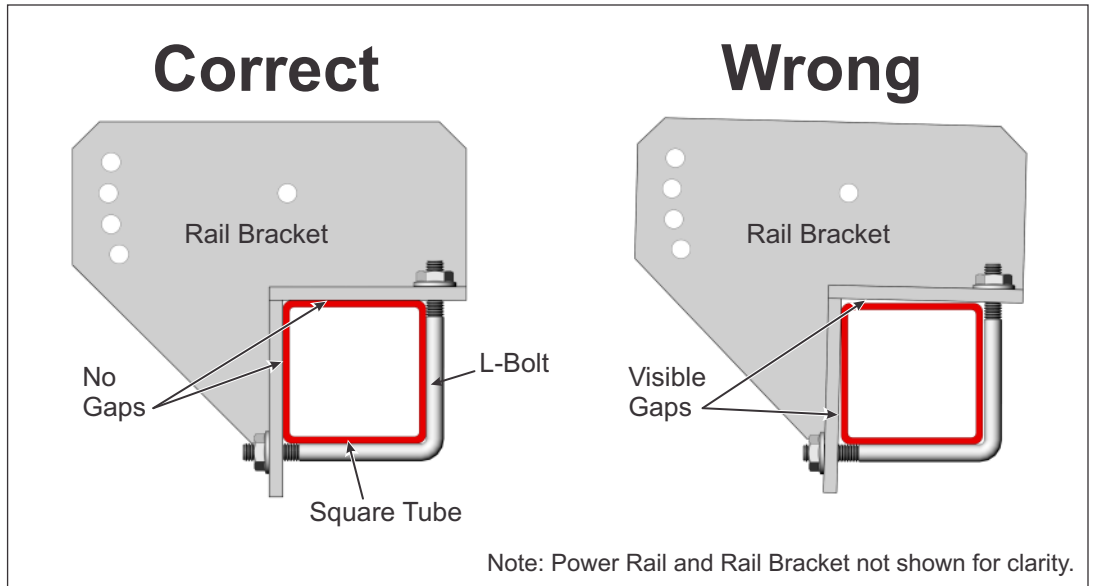

Figure 4-6: Alternate Tightening of L-Bolts to Close Gaps
- D. Continue to tighten the Flange Nuts, alternating between the four so the L-Bolts and Rail Bracket are drawn evenly against the Horizontal Pipe. (See Figure 4-6)